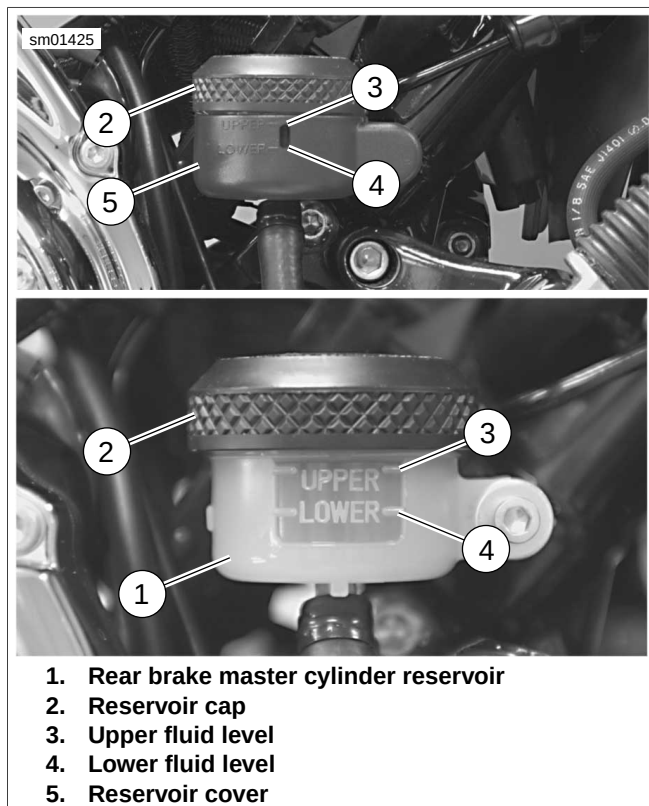

Figure 1-27. Rear Brake Master Cylinder Reservoir: XL Models
See Figure 1-27. As the piston is pushed back into the caliper, fluid level may rise higher than the upper fluid level (3) in the reservoir (1). You may have to remove fluid to allow for this.
2. See Figure 1-27. Remove rear master cylinder reservoir cap (2).
- See Figure 1-27. Reservoir cover (5) may be removed from rear brake master cylinder reservoir (1) to more easily verify fluid level in reservoir.
15. See Figure 1-27. If desired, remove rear brake master cylinder reservoir cover (5) by grasping cover and gently pulling it straight away from reservoir (1).
16. Check brake fluid level in master cylinder reservoir. If necessary, add HARLEY-DAVIDSON D.O.T. 4 BRAKE FLUID to reservoir until fluid reaches upper fluid level (3).
17. Replace master cylinder reservoir cap (2). Replace reservoir cover (5), if removed.